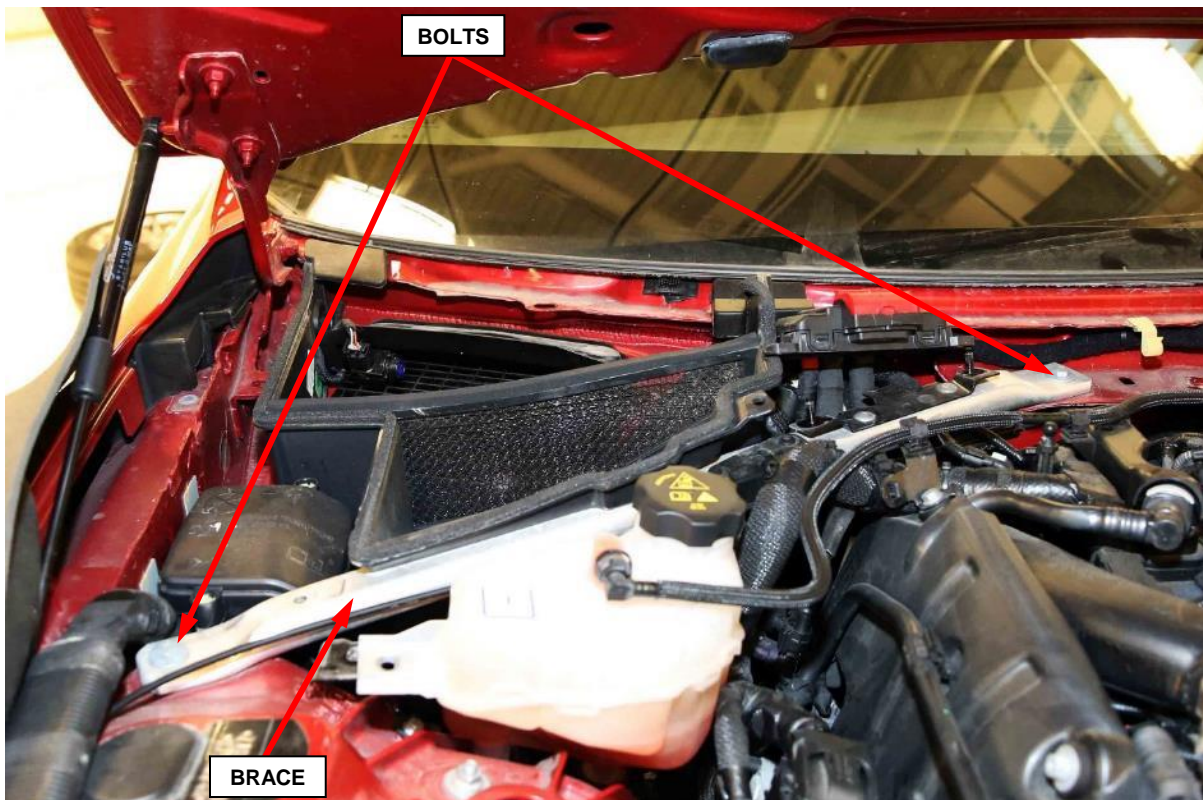

Figure 26 – Right Side Engine Box Reinforcement Brace
31. Remove the bolts securing the right side engine box reinforcement brace (Figure 26).
38. Remove the right side engine box reinforcement brace (Figure 26).
88. Install the right side engine box reinforcement brace (Figure 26).